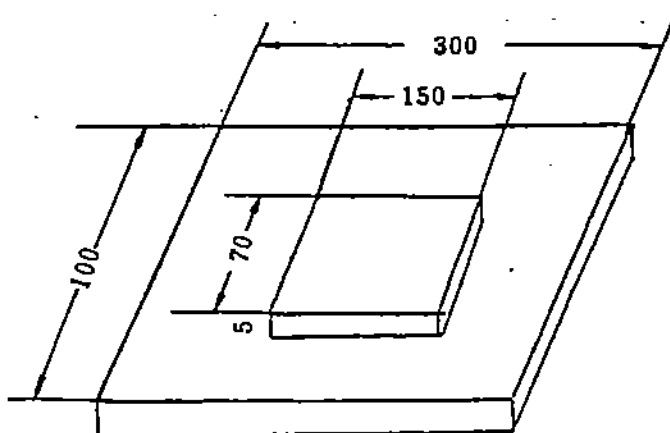

Figure 6
- (1) Forming sealant : Attach the sample with about 150mm horizontal on the steel plate oil surface (0.8mm thick, 100×300mm) and stick it by reciprocating the roll once.
- (2) Unsettled sealant : Coat the steel plate oil surface with the sample as in Figure 6.